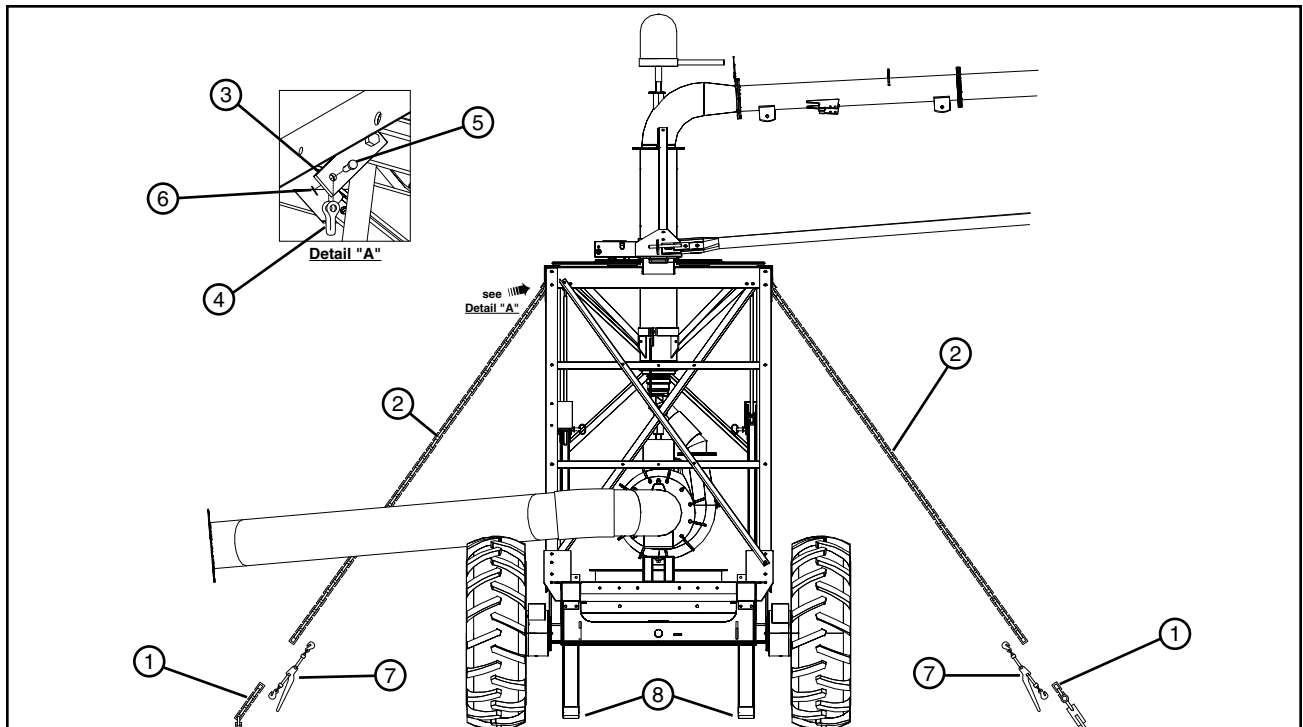

Figure 69-1
Prior to pivoting the span, the operator must insure the cart is correctly positioned over the pivoting point. If the machine has stopped before reaching the pivot position, run the cart manually to the pivot position. See Figure 69-1.
1. Make sure the machine is in the pivot position between the short binder chains on the cart path. See Figure 69-1.
2. Attach one long binder chain to the mounting plate on each side of machine structure with a clevis, clevis pin and cotter pin. See Figure 69-1.
3. Attach each long binder chain from machine to a short binder chain with a load binder. See Figure 69-1.
4. Latch each load binder closed so that the long binder chains are tight. See Figure 69-1.